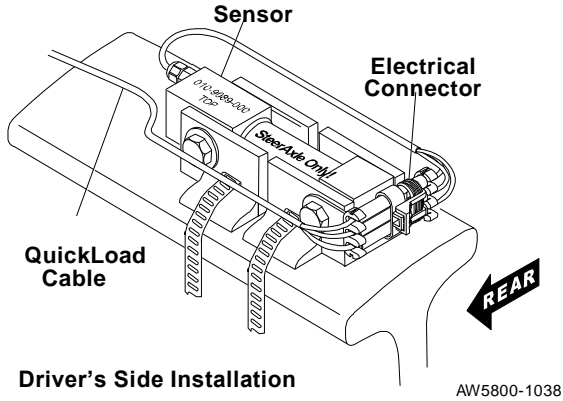

Figure 13. Placing the QuickLoad Scale Cable for a Driver's Side Hookup
1. Facing towards the rear of the vehicle, route the cable from the connector assembly so it runs to the right of the steer axle sensor assembly. See Figure 13.